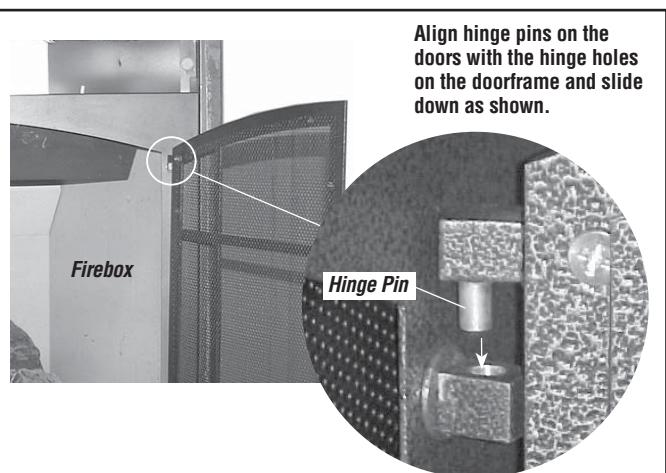

Figure 8
7. Remove the screen doors from packaging. Install them by aligning hinge pins on the doors with the hinge holes on the doorframe and slide down (see instructions in *Figure 8*). Ensure the hinge pins are fully seated onto the shoulders of the hinge holes.